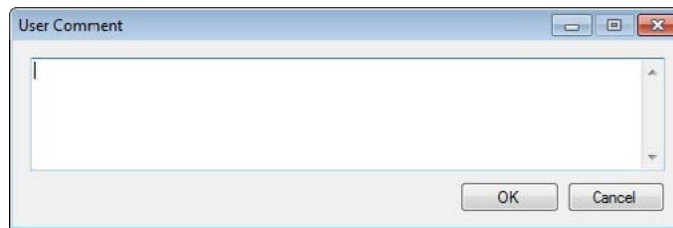

Figure 20
5. The User Comment dialog box will also appear. Enter any comment required and click OK (Figure 20).